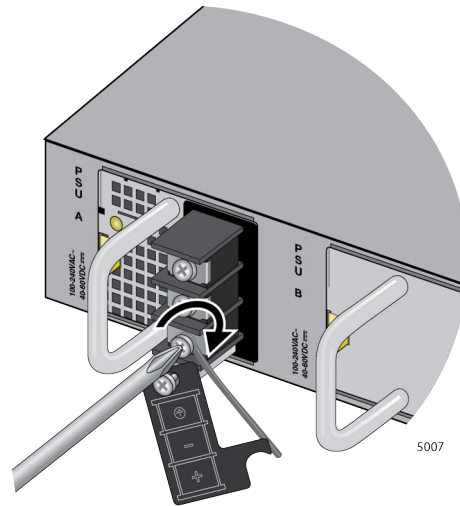

Figure 98. Wrapping the Grounding Wire and Tightening the Screw
5. Wind the grounding wire clockwise around the base of the grounding screw. Refer to Figure 98.